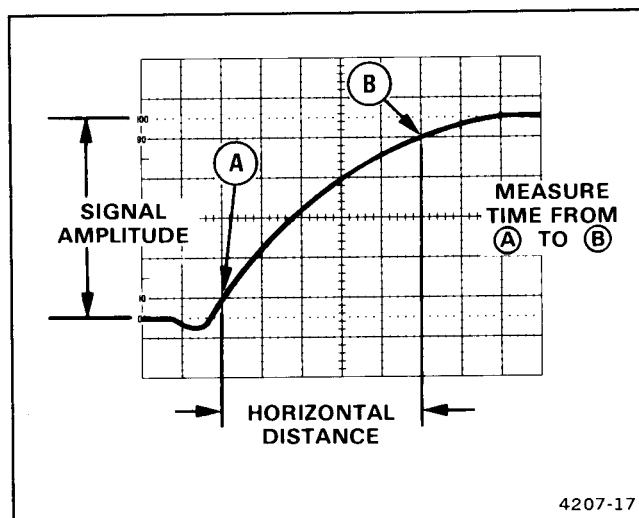

Figure 4-7. Rise time.
Rise-time measurements use the same methods as time duration, except that the measurements are made between the 10% and 90% points on the leading edge of the waveform (see Figure 4-7). Fall time is measured between the 90% and 10% points on the trailing edge of the waveform.
4. Adjust vertical positioning so that the zero reference of the waveform touches the 0% graticule line and the top of the waveform touches the 100% graticule line (see Figure 4-7).
6. Horizontally position the display so the 10% point on the waveform intersects the second vertical graticule line (see Figure 4-7, Point A).
EXAMPLE: The horizontal distance between the 10% and 90% points is 5 divisions (see Figure 4-7), and the A SEC/DIV switch is set to 1 μs . The X10 magnifier knob is pushed in (1X magnification).